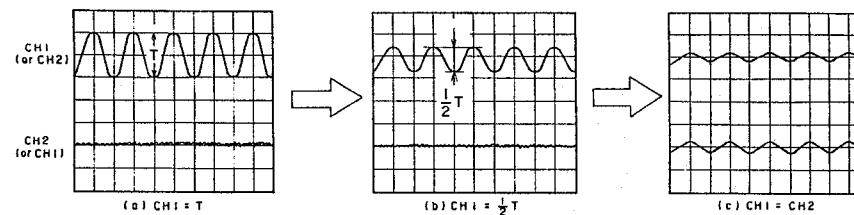

Fig. 4-14
- Turn the hexagon screw to obtain 1/2 of the output level of either CH-1 or CH-2, whichever has an output signal as shown in Fig. 4-14.